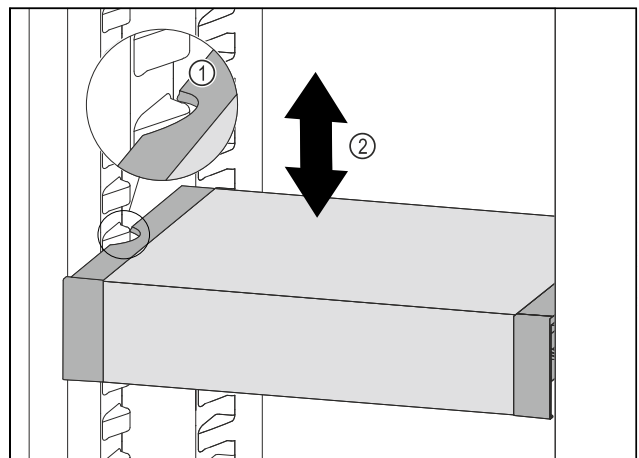

Fig. 78
- ▶ Pull VarioSafe forwards until the recesses in the side of the VarioSafe are at the level of the support rib in the refrigerator compartment. *Fig. 78 (1)*
- ▶ Move VarioSafe up or down in the refrigerator compartment until the desired height is reached. *Fig. 78 (2)*